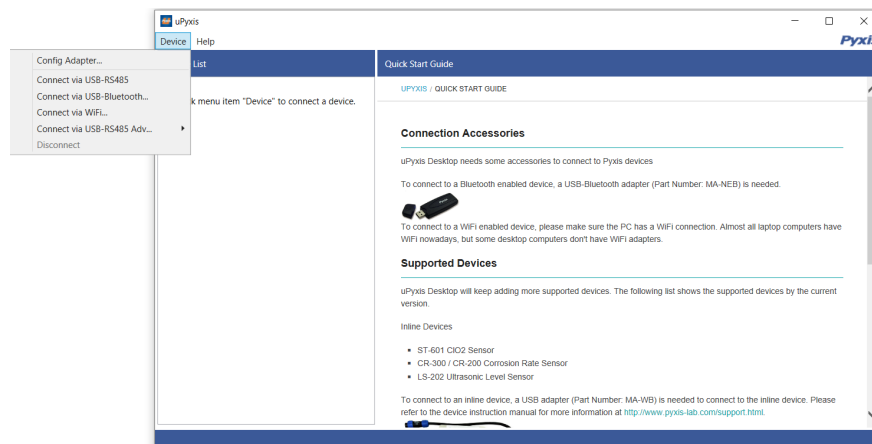

Figure 17.
4. On **uPyxis® Desktop App**, click Device → **Connect via USB-Bluetooth** (Figure 17).
5. If the connection is successful, the SP-210 and its Serial Number (SN) will be displayed in the left pane of the **uPyxis®** window.